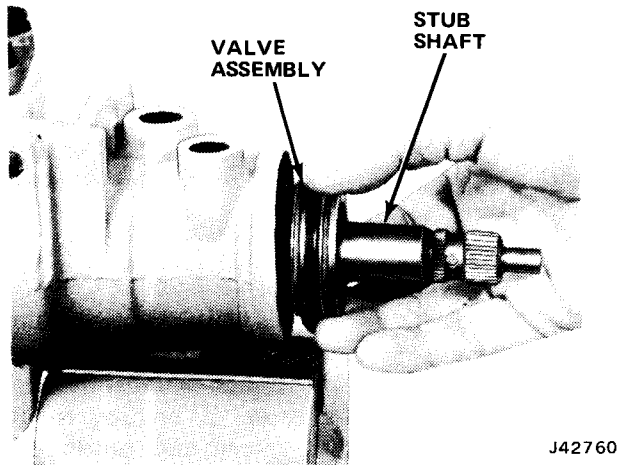

Fig. 11-89 Installing Valve Assembly
(7) Install assembled valve and worm in housing as assembly. Align valve body drive pin in worm with narrow pin slot on valve body. Insert valve assembly into gear housing (fig. 11-89).